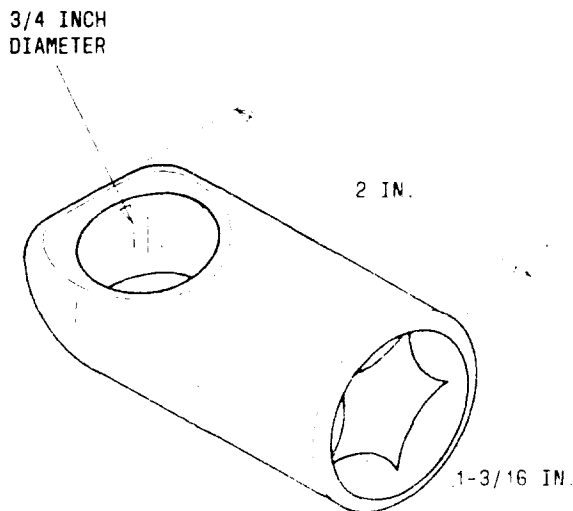

Fig. 1—B Manhole Wrench
2.01 The B manhole wrench (Fig. 1) is a zinc-plated socket wrench with an overall length of two inches. The wrench is designed to turn pentagonally-headed (5-sided) locking bolts used with the D or H manhole covers.